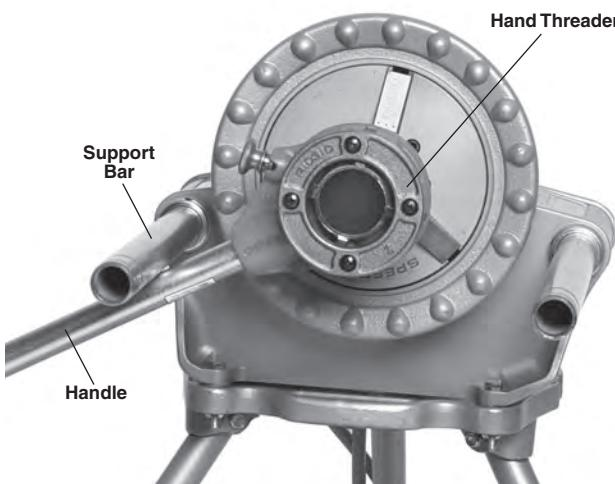

Figure 20 – Removing Die Head From Threaded Pipe (Handle Against Bottom of Bar.)
- c. Fully extend the switch side support bar and raise threader handle against bottom of the bar. Hold the end of threader handle with left hand. To avoid pinch point injuries, do not place hand or fingers between the threader handle and support bar. Keep handle in contact with the support bar (see *Figure 20*).
1. Hold the threader handle against bottom of switch side support bar. To avoid pinch point injuries, do not place hand or fingers between the threader handle and support bar. See *Figure 20* for proper operating position.